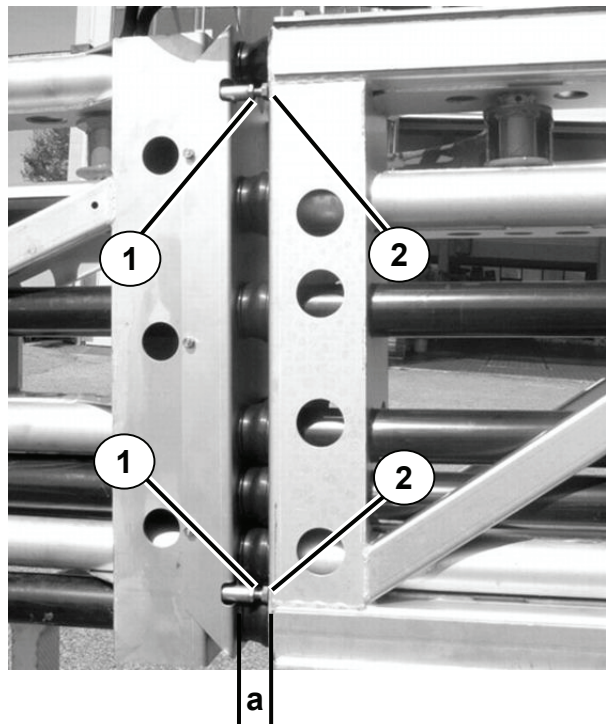

Fig. 39: Vertical adjustment of the unfolded booms
- The distance dimension a (see Fig. 39: Pos. a) is approx. 47 mm.